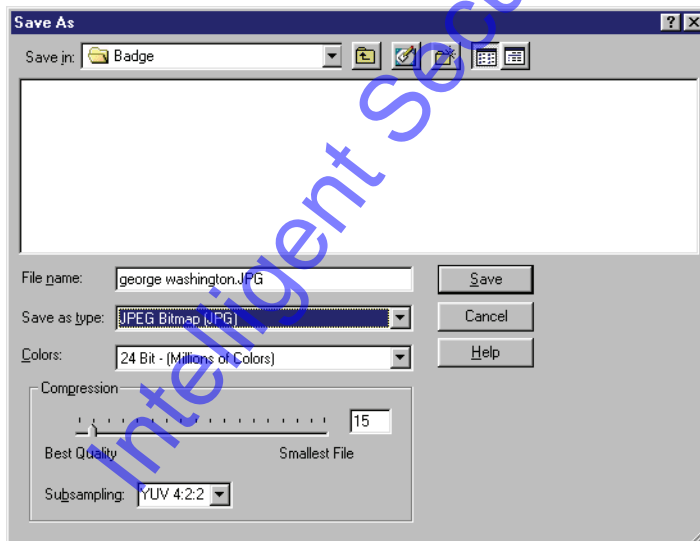

Figure 9-25 Export User Photo
9. If desired, the user image can be exported to one of a variety of graphic file formats. Click on the button. A file Save As window appears (see Figure 9-25).